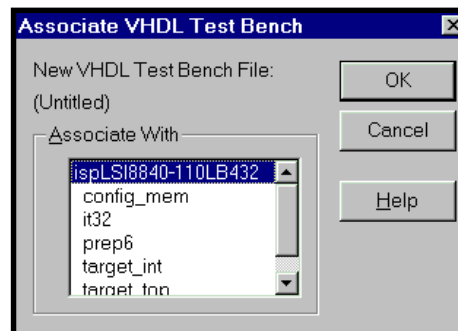

Figure 1-12. Associate VHDL Test Bench Dialog Box
2. Select VHDL Test Bench in the New field and then click **OK**. The Associate VHDL Test Bench dialog box (Figure 1-12) appears, prompting you to associate the new VHDL test bench file with the selected device or one of your design modules.